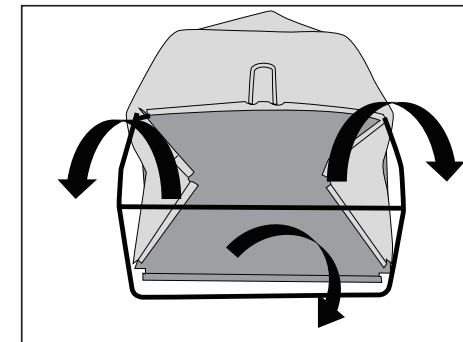

Fig. 9
1. Slide the rail on the edges of the bag to the rod on the grass catcher frame (Fig.9).